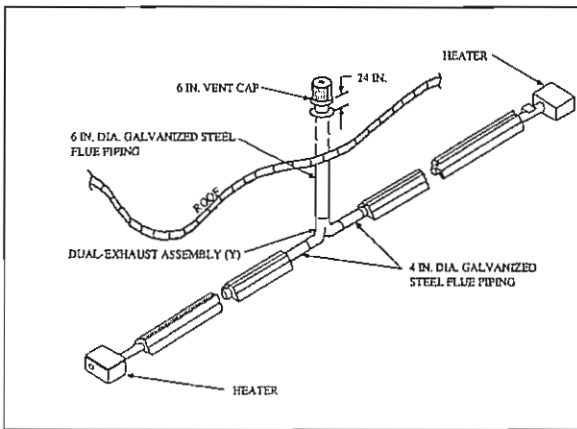

Figure 2-22
- A 6 inch diameter common flue must be used for double venting of units. One thermostat must control both units. **When common venting is used, flues should be connected so that the by products of one heater cannot flow into the adjoining flue of the other heater.** A dual exhaust assembly is available from Detroit Radiant (Part No. Y or RT). See Figures 2-22 through 2-24. A Field Controls SK-6 vent cap must be used for sidewall common venting of HL 200 models.